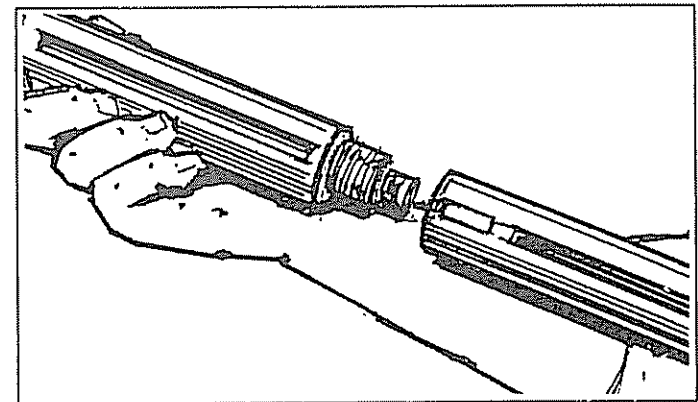

FIG. 4
- Attach adjustable nozzle extension to spray gun by inserting threaded end of extension into end of spray gun and tightening the extension by hand until it locks in place (Fig. 4).